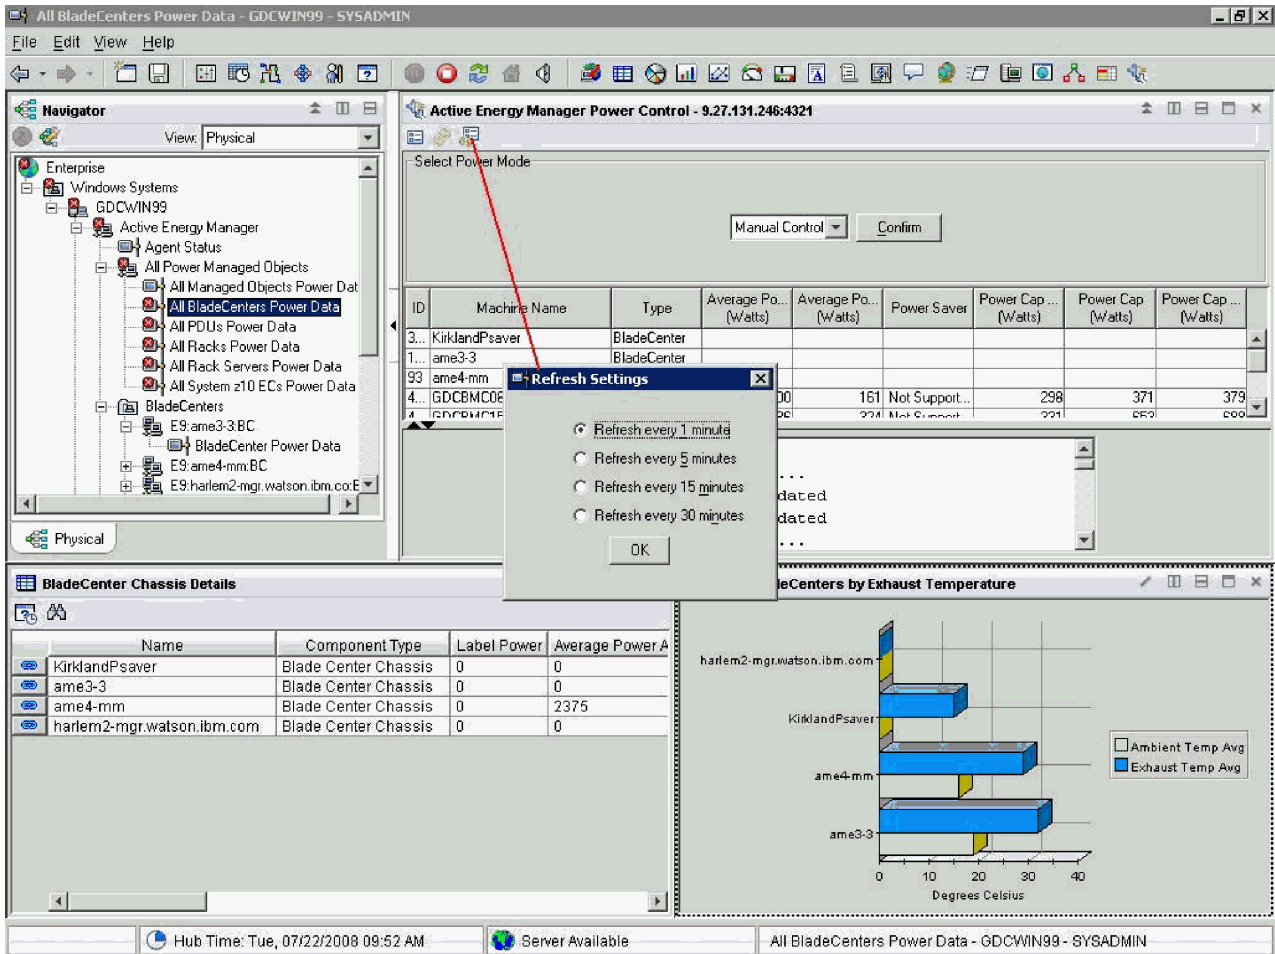

Figure 27. Refresh Settings option
**Refresh Settings option:** The Refresh Settings option is shown in Figure 27 on page 44.